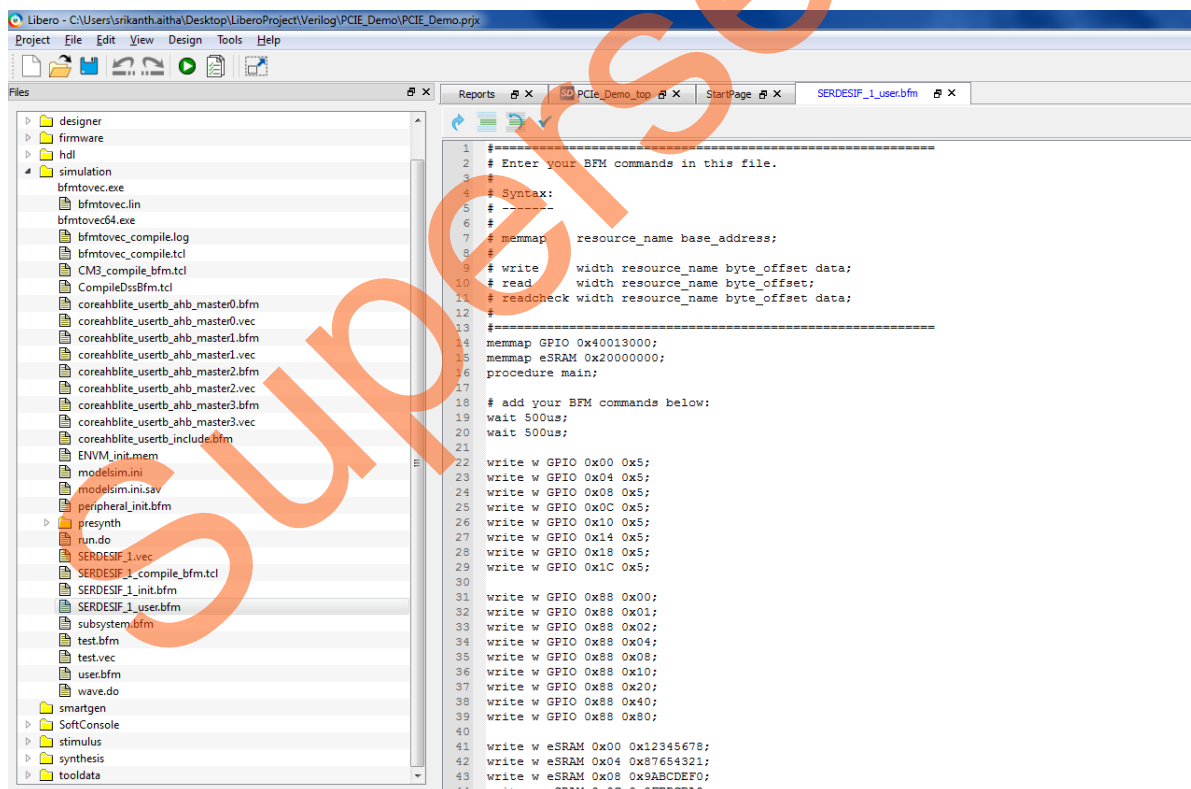

Figure 47 • Modified SERDES User BFM
3. The modified BFM file appears similar to the file shown in Figure 47. BFM commands added in the `SERDESIF_1_user.bfm` do the following: